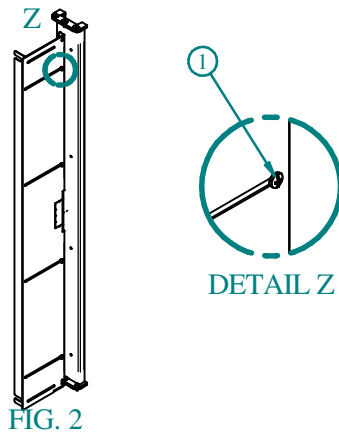

FIG. 2
- LOOSEN BARRIER SCREWS AS SHOWN IN FIG. 2
- TIGHTEN BARRIER SCREWS FIG. 2